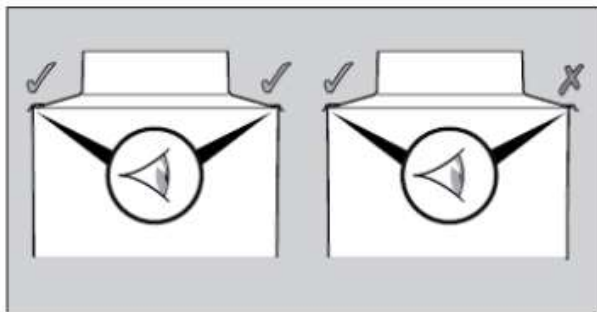

Figure 18
23. Place the sump top hat (S8-3100-TH or similar) onto the tank sump base to ensure it will fit. Push top hat groove onto sump base wall ("dry fit" the sump top hat at this stage). The top hat should sit evenly all the way around. See Figure 18.